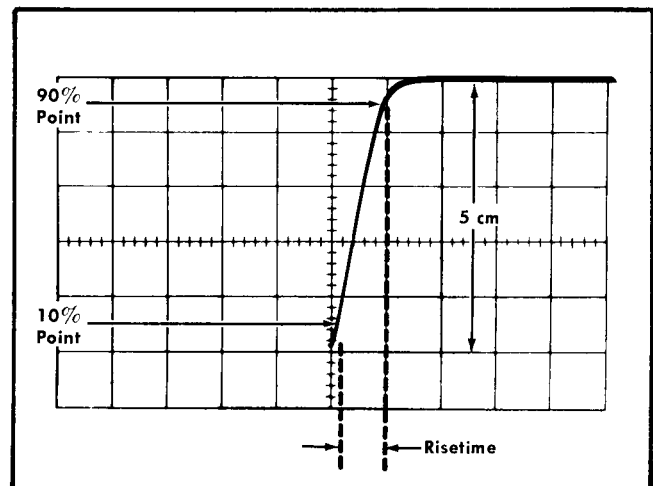

Fig. 6-13. Measuring calibrated risetime with a sweep rate of $0.5 \mu\text{s}/\text{cm}$.
e. CHECK—Risetime (see Fig. 6-13), equal to or less than $1 \mu\text{s}$.